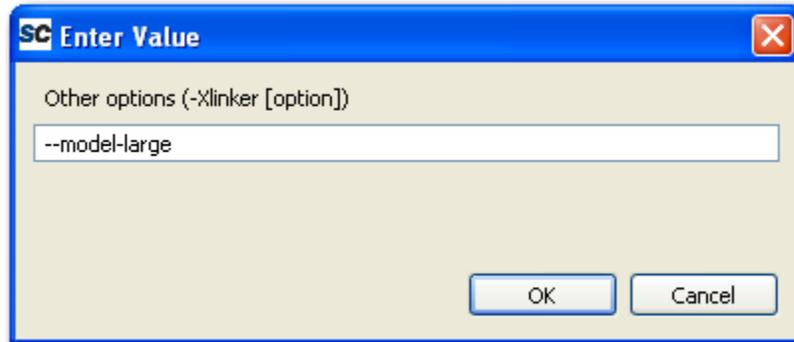

Figure 1-7 · Setting Linker to Large Memory Model
- In the same box, click **Miscellaneous** under **SDCC Linker**. In the **Other Options** box, click on the icon with the plus [+] sign. The **Enter Value** box will open. Type `--model-large` for the large memory model for this tutorial. Click **OK**. (Figure 1-7).